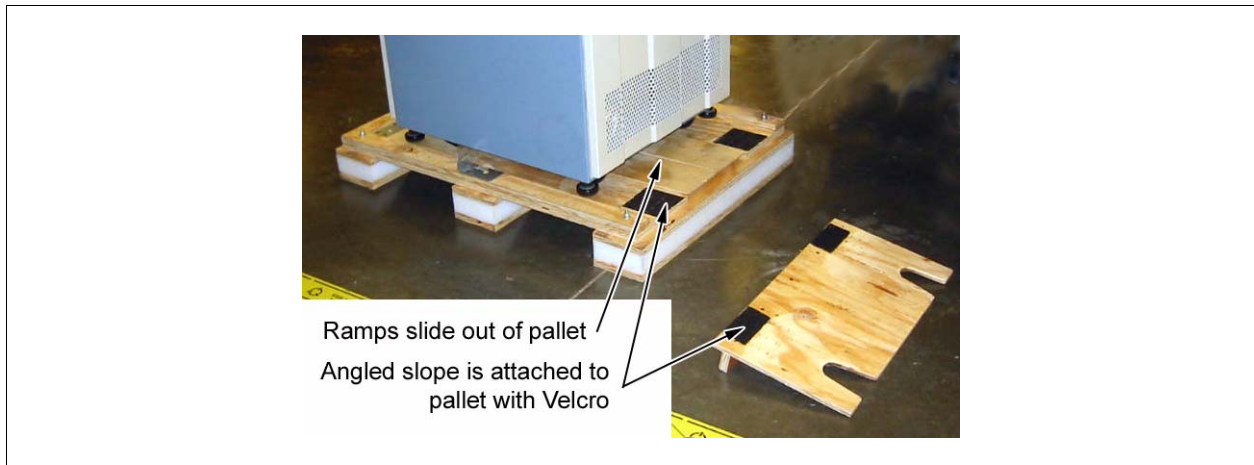

Figure 1-3: Pallet Accessories
- 10** Remove the angled slope and ramps from the pallet. See Figure 1-3.